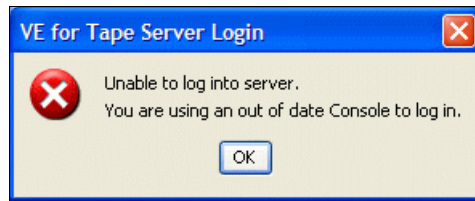

Figure 6-19 TS7530 VE for Tape Console failure with back-level code
- If you attempt to start the TS7530 VE for Tape Console with code that is a lower level than the code running on the TS7530 VE for Tape Server your login attempt will fail and you will see an error window (Figure 6-19). To correct this problem, install the same level of code for both the TS7530 VE for Tape Server and the TS7530 VE for Tape Console.